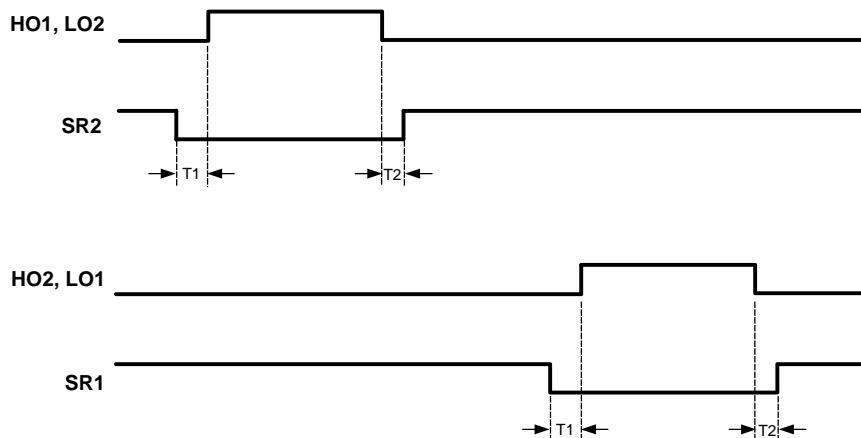

Figure 13. Synchronous Rectifier Timing Diagram
Synchronous rectification (SR) of the transformer secondary provides higher efficiency, especially for low output voltage converters, compared to the diode rectification. The reduction of rectifier forward voltage drop (0.5 V to 1.5 V) to 10 mV to 200 mV V_{DS} voltage for a MOSFET significantly reduces rectification losses. In a typical application, the transformer secondary winding is center tapped, with the output power inductor in series with the center tap. The SR MOSFETs provide the ground path for the energized secondary winding and the inductor current. From Figure 13 it can be seen that when the HO1/LO2 diagonal is turned ON, power transfer is enabled from the primary. During this period, the SR1 MOSFET is enabled and the SR2 MOSFET is turned-off. The secondary winding connected to the SR2 MOSFET drain is twice the voltage of the center tap at this time. At the